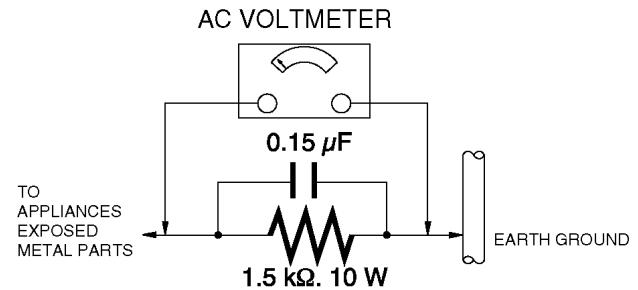

Figure. 1
## 1.3. Leakage Current Hot Check (See Figure 1.)
2. Connect a  $1.5\text{ k}\Omega$ ,  $10\text{ W}$  resistor, in parallel with a  $0.15\text{ }\mu\text{F}$  capacitor, between each exposed metallic part on the set and a good earth ground, as shown in Figure 1.